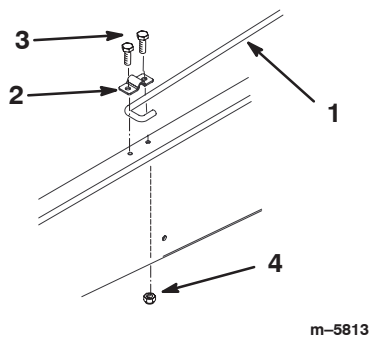

Figure 9
6. Loosen the bolt securing the prop rod clip to the frame until you can slide the J-hook end of the prop rod under the clip (Fig. 9).
7. Tighten the bolt and secure the other side of the clip with a new bolt (5/16 x 3/4 inch) and flange nut (5/16 inch) (Fig. 9).